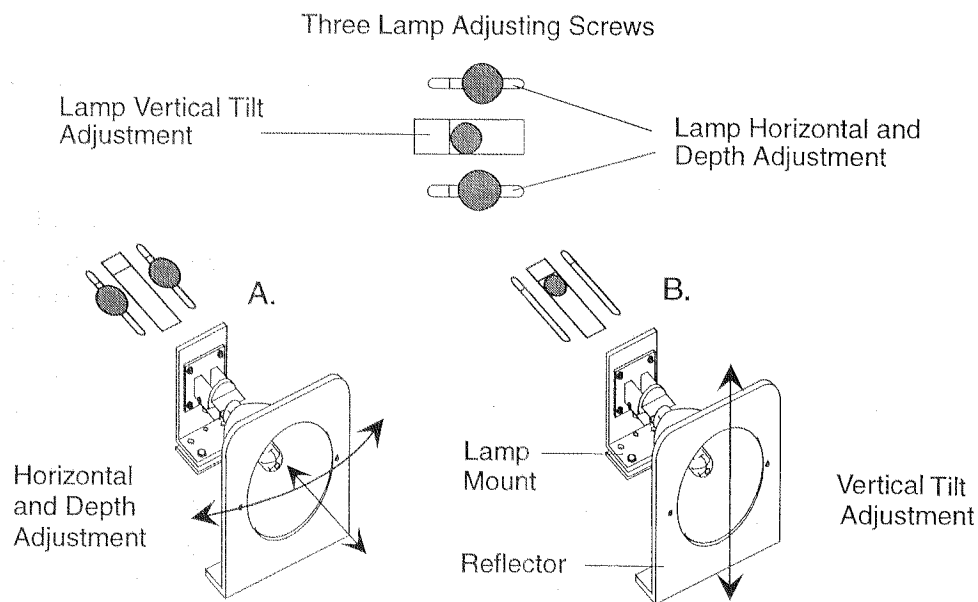

Figure 2.16. Lamp Optimizing Adjustments
9. To perform the course adjustment loosen the two outer, large black, adjustment screws. Refer to Figure 2.16, view A. These two screws control the lamp mount's side to side and depth movement.
10. To complete the course adjustment you perform the vertical tilt adjustment. Loosen the smaller center black adjustment screw. Refer to Figure 2.16, view B. Now, using the lamp vertical tilt adjustment screw, adjust the height of the lamp until the beam is the brightest and even across the circle. Tighten the vertical adjustment screw.